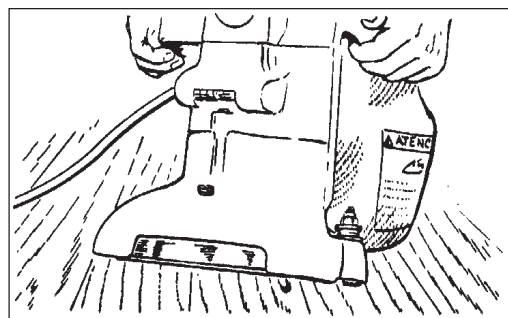

Figure 3
4. Return machine to upright position and tilt machine back on casters until it comes to rest on the exhaust bracket. Machine will be in a reclined position. Do not allow machine to rest on pad especially after use, or compression set may take place within elastomer on pad. This will create a flat spot and bounce during use. (Figure 3)
3. With the machine in the reclined position firmly grasp both handles and flip the control switch to the "ON" position. (Figure 3.)